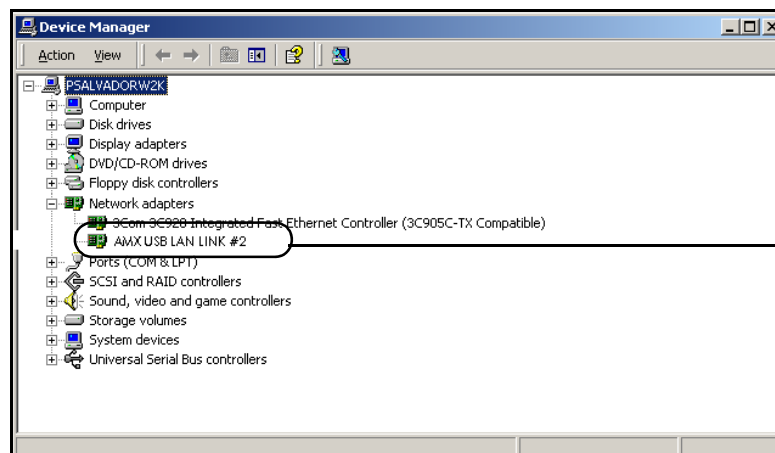

FIG. 54 Device Manager dialog showing USB device
- Within the *Device Manager* dialog, the AMX USBLAN device appears under Network Adapters (FIG. 54) and has a unique name such as AMX USB LAN LINK #2. The number changes depending on which recognized panel is currently connected.